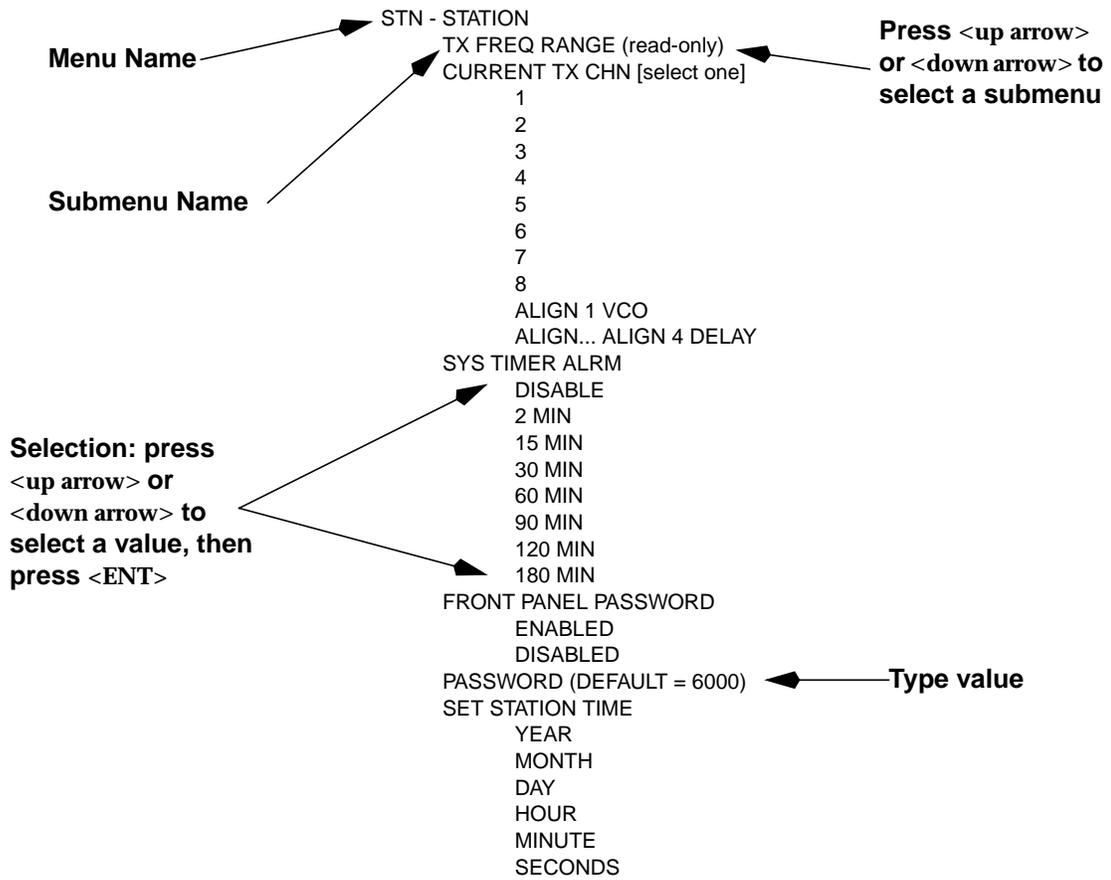

Figure 7-1: Nucleus Paging Station Menu Logic
When the LED display shows the READY prompt, the system is in the menu select mode. The menus are organized in a hierarchy. All menus have submenus and many submenus have further selections (see Figure 7-1 for the SCM menus and Step 7-2 for the NAC menus). Use this general procedure to work with the menus.
All menus are structured hierarchically (see Figure 7-1, Table 7-2, and Table 7-2). Use the following procedure for working in these menus:
6. If the value is a simple number, type the new value on the keypad. Press <ENT> to store the value. For example, in Figure 7-1, the value for the password is 6000. To replace this value, type the new value and press <ENT>.
7. If the value is one of a list, press <down arrow> to scroll through all the available values in the list. Press <ENT> to select and store the new value. For example, in Figure 7-1, the values for the CURRENT TX CHN are 1 through 8. Press <down arrow> to scroll through these values. Press <ENT> to select the correct one.